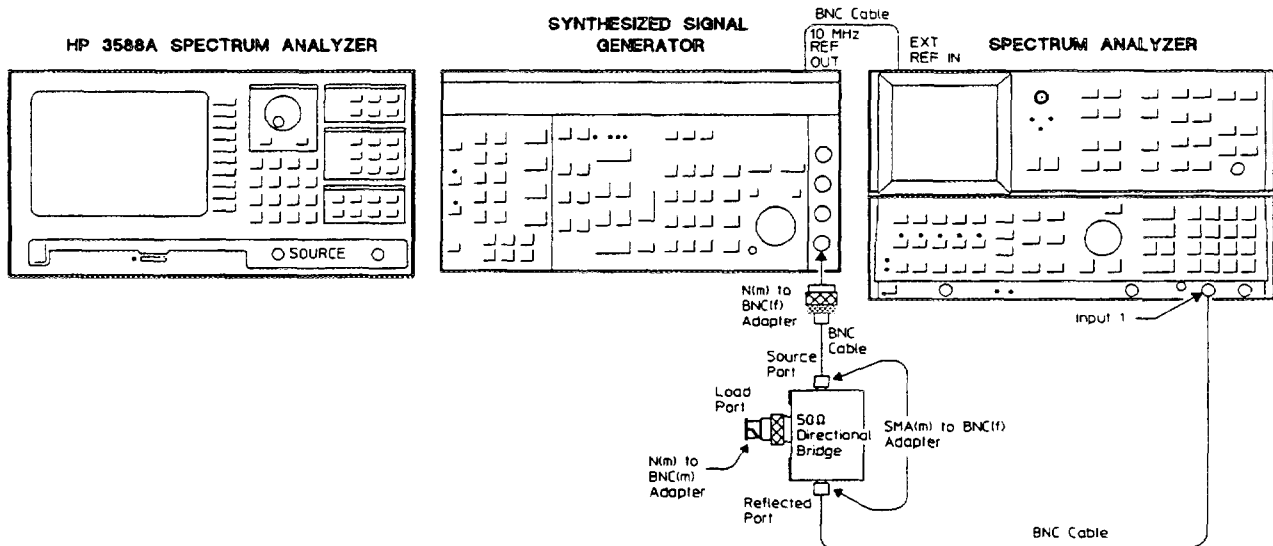

Figure 3-16. Source Return Loss Setup
- SMA(m)-to-BNC(f) Adapters (2)
- BNC Cables (3)
1. Connect the test equipment as shown in figure 3-16.